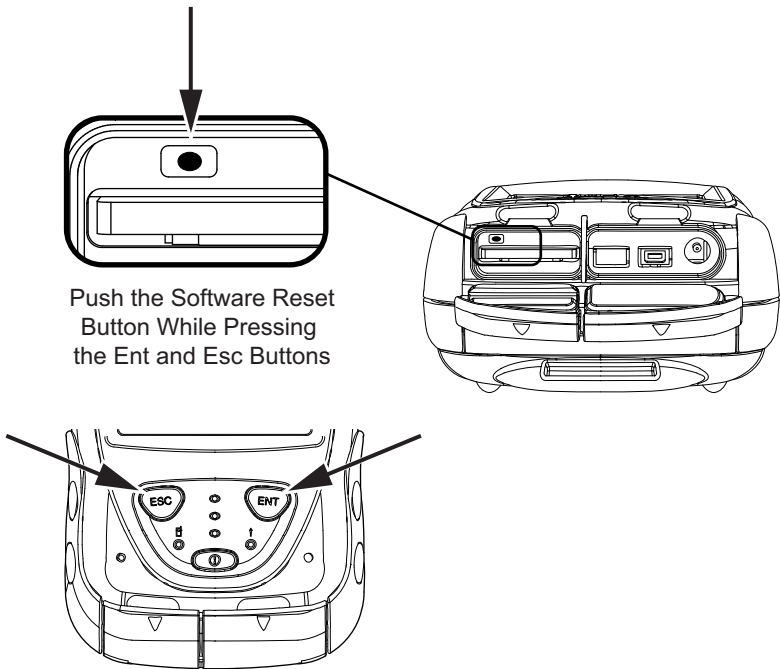

Figure 8-1. format Reset
3. When the GRS-1 is off, simultaneously hold the ESC and ENT buttons while pushing the software reset button with the stylus pen for two or more seconds (Figure 8-1 on page 8-3). The GRS-1 turns off.